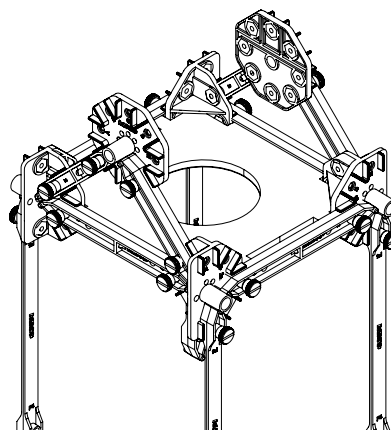

Figure 8: Supports for the damping pendulum axle.
2. Attach a #2 I-beam to the 45° angle slot on each of the half round connectors on the fifth floor, as shown in Figure 8. Note the orientation of the supports relative to the Flat F4 Beams.
3. Attach a flat round connector to each of the two 45° angled supports, as shown in Figure 8. Make sure that the flat round connectors face outwards.